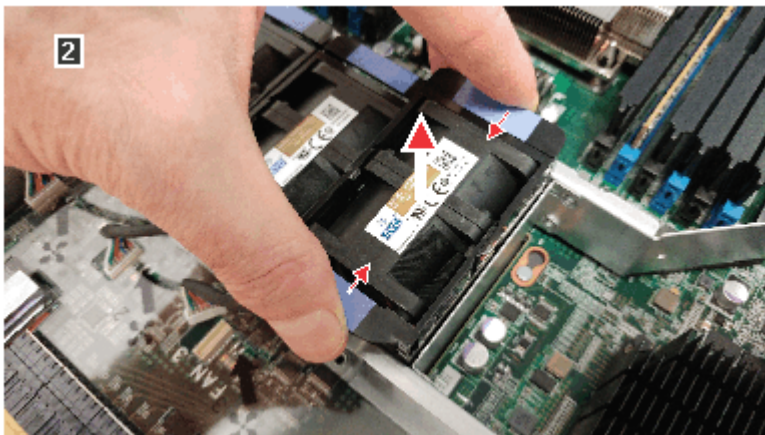

Figure 90. Removing the fan module
6. Hold the fan module between your finger and thumb at the blue touch points. Squeeze gently and lift the fan module out of the node canister, as Figure 90 on page 139 shows.